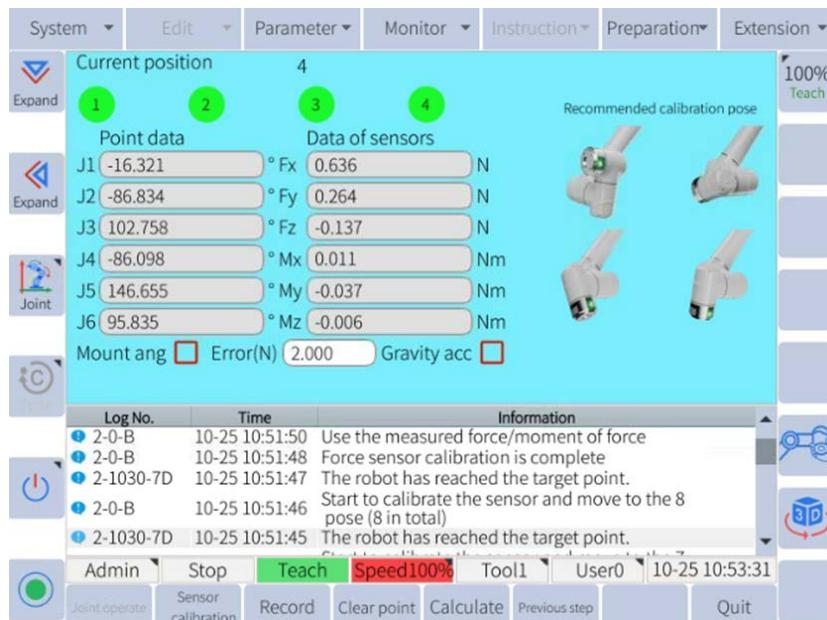

Figure 6-40: Point data recording interface
- (c) Repeat the steps above and record the position of the point 3 and 4 and the data of the force sensor. After finishing all records, the display is shown in Figure 6-40.